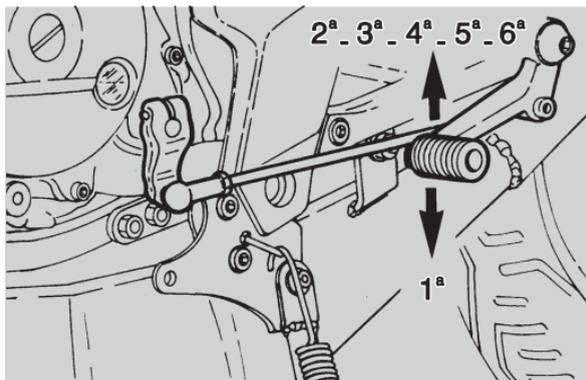

Fig. 25
- with released throttle grip and idling engine, pull the clutch lever and engage the first gear by pressing the gearshift foot lever downwards (Fig. 25);